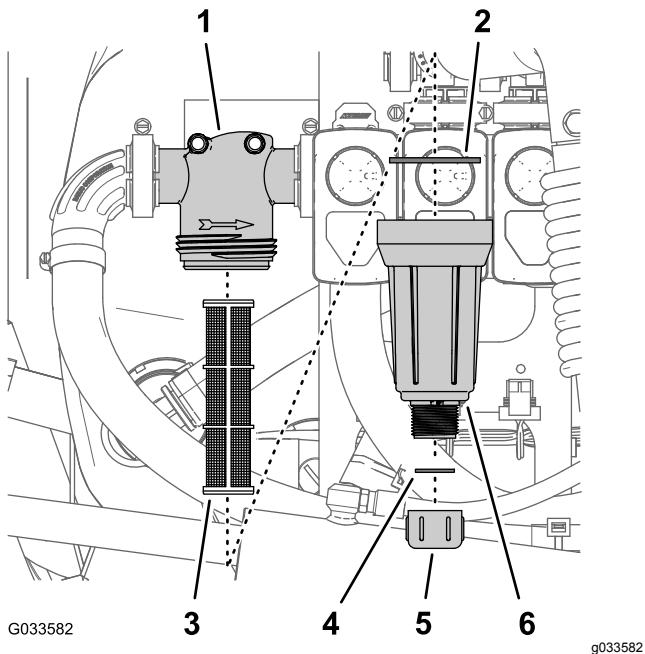

Figure 97
2. Align a drain pan under the pressure filter (Figure 97).
3. Rotate the drain cap counterclockwise and remove it from the bowl of the pressure filter (Figure 97).
4. Rotate the bowl counterclockwise and remove the filter head (Figure 97).
5. Remove the pressure filter element (Figure 97).
7. Check the gasket for the drain plug (located inside the bowl) and the gasket for bowl (located inside the filter head) for damage and wear (Figure 97).
8. Install the pressure filter element into the filter head (Figure 97).
10. Install the bowl onto the filter head, and tighten by hand (Figure 97).
11. Assemble the drain cap onto the fitting at the bottom of the bowl, and tighten the cap by hand (Figure 97).